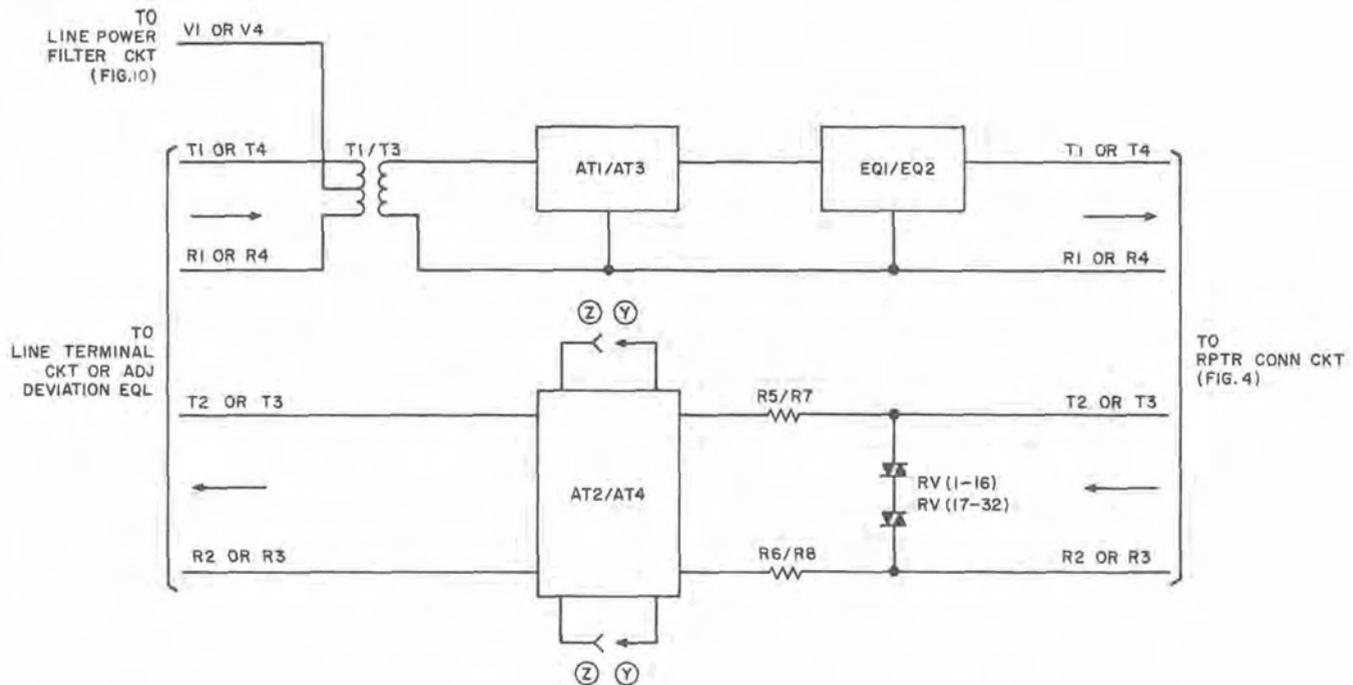

Fig. 5—Line Build-Out Circuit (In N2 Repeater to N1 or N1A Adapter)
**3.03** The line build-out circuit, illustrated in Fig. 5, connects to the repeater connecting circuit and is identical for each direction of transmission.